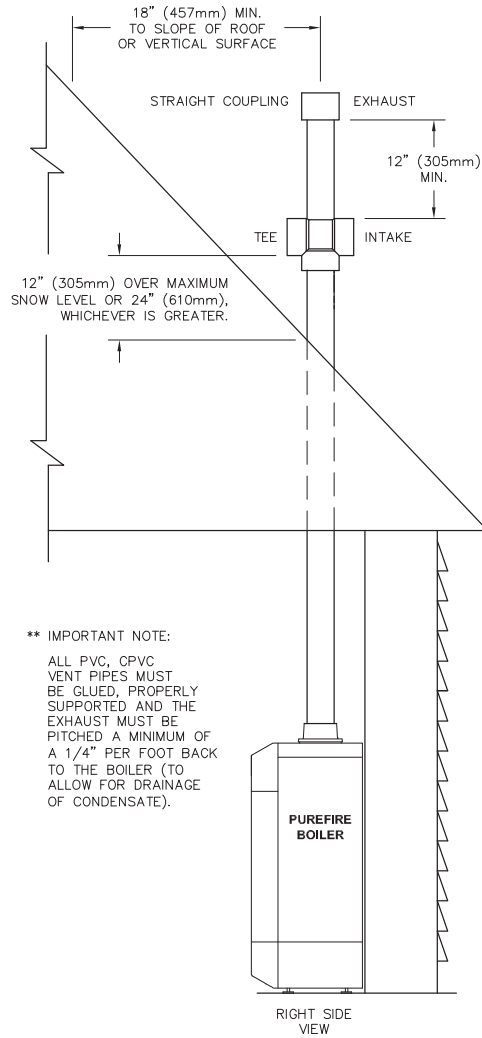

Figure 3.8: Standard Vertical Vent Installation
a. Figure 3.8 shows the approved venting configuration for vertical venting using the standard fittings supplied.